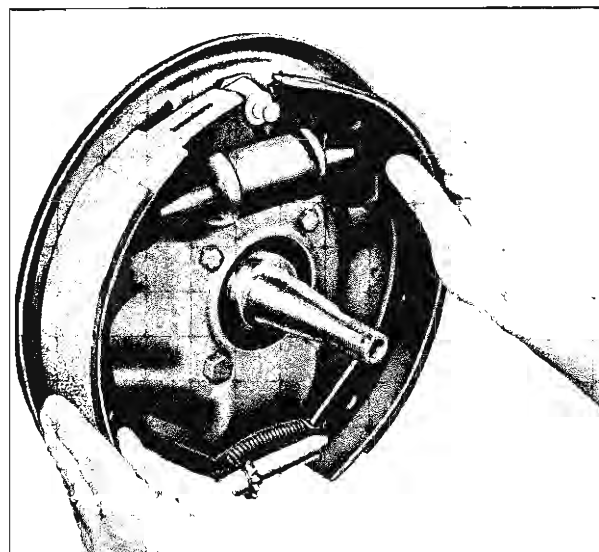

Fig. 17—Spreading Brake Shoes for Removal
6. Spread shoes to clear wheel cylinder connecting links and remove shoes from backing plate (fig. 17).